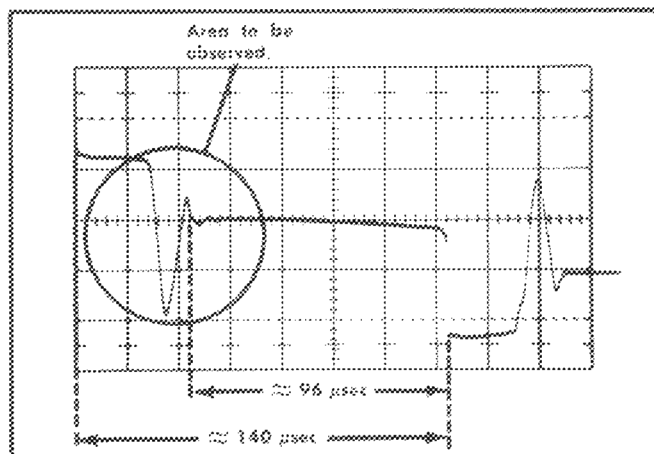

Fig. 6-5. Waveform obtained when OSC FREQ control is correctly adjusted. Oscilloscope controls for waveform were: Time/CM 20 μ Sec, Volts/CM 20.
- e. Adjust OSC FREQ control to obtain a waveform similar to the waveform shown in Fig. 6-5.